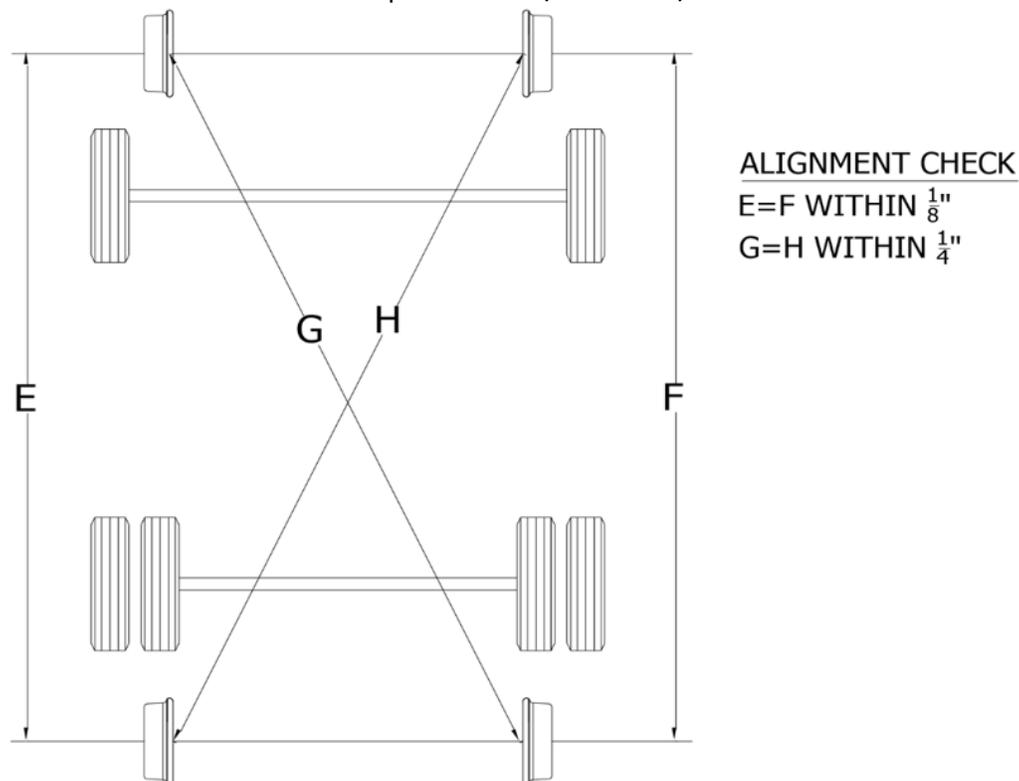

FIGURE 7-1
- (1) The distance from the Front Rail Wheel to the Rear Rail Wheel on each side in figure 7-1, distance "E" must equal to "F" (within 1/8").
- (2) The diagonals from the Front Rail Wheel to the Rear Rail Wheel on the opposite side.
In figure 7-1, distance "G" must be equal to "H" (within 1/4")